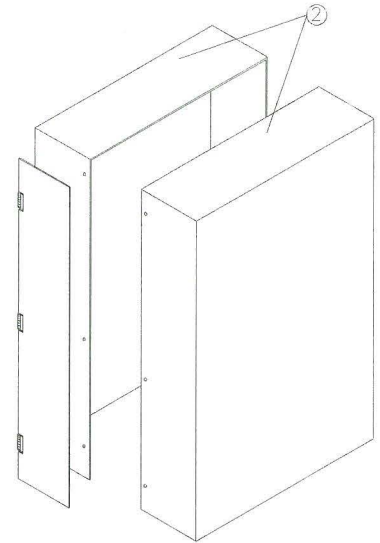

FIGURE 1
- II. REMOVE CABINET COVERS (PART NO.'S RK148-088 & RK148-089) FROM MACHINE TO EXPOSE INNER PANELS OF THE DIVIDER. (SEE FIGURE 1).